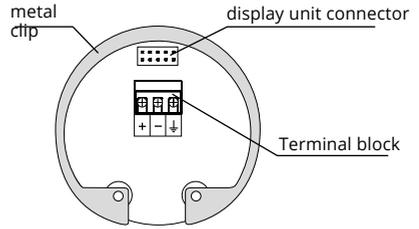

Fig. 17: Inside view of screw terminals of the level meter with current output ULM-70_---I
5. Connect the cable to the screw terminals according to the diagram in Fig. 17 or 18. Firmly tighten the terminals and the cable outlet.
In the event of strong ambient electromagnetic interference, paralleling of conductors with power distribution, or for distribution to distances over 30 m, we recommend grounding the level meter (see above) and using a shielded cable. Ground the shielding of the cable on the side of the power supply, or the shielding is possible to connect only on inside pin of the level meter marked \oplus see fig. 17 and 19 (the shielding of the cable is always connected in a single location).